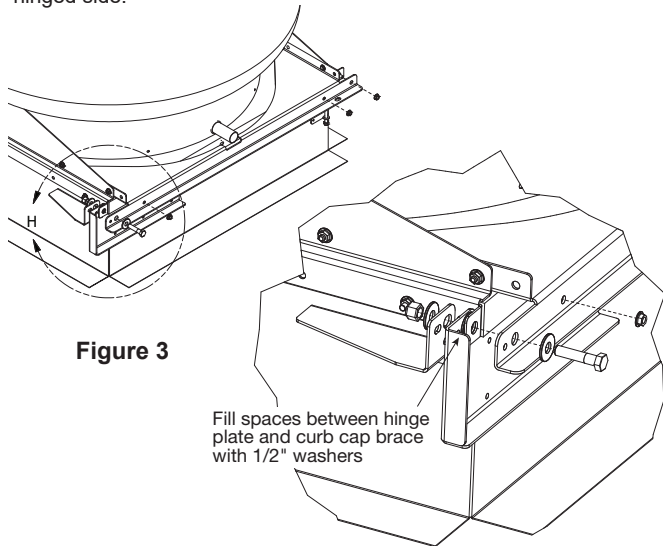

Figure 3
- Install an additional washer on the inside of the lower hinge bracket. **See Figure 3.** When the 1/2" bolt appears to easily move in and out of its hole, secure the hinge plate to the curb using six self-drilling screws in the six 1/4" holes on the plate. Repeat this step for the other hinged side.